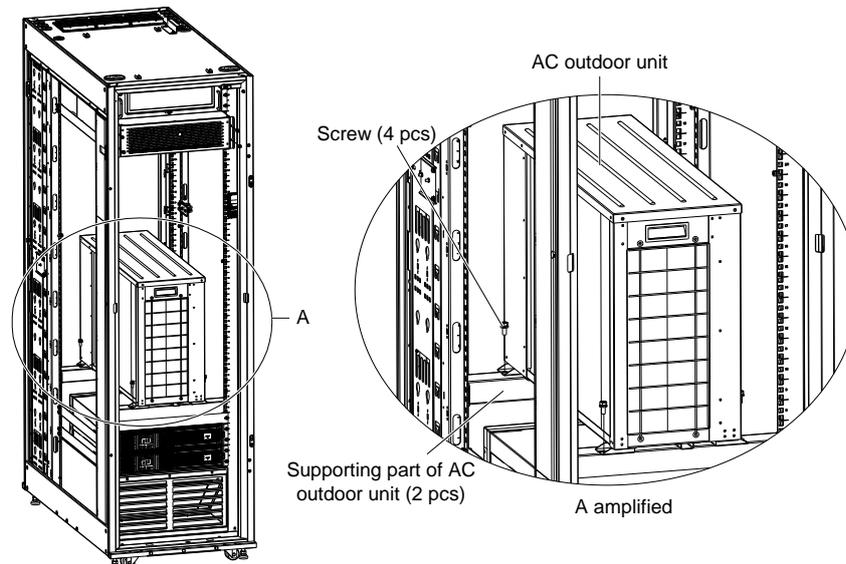

Figure 3-4 Removing the fixing screws of outdoor unit
2. Remove the four screws on the four corners of outdoor unit, and carry the AC outdoor unit out, as shown in Figure 3-4.
2. In Figure 3-4, the two 1U-height supporting part of AC outdoor unit at lower part of the outdoor unit can be used as dummy plates in cold aisle of the cabinet.